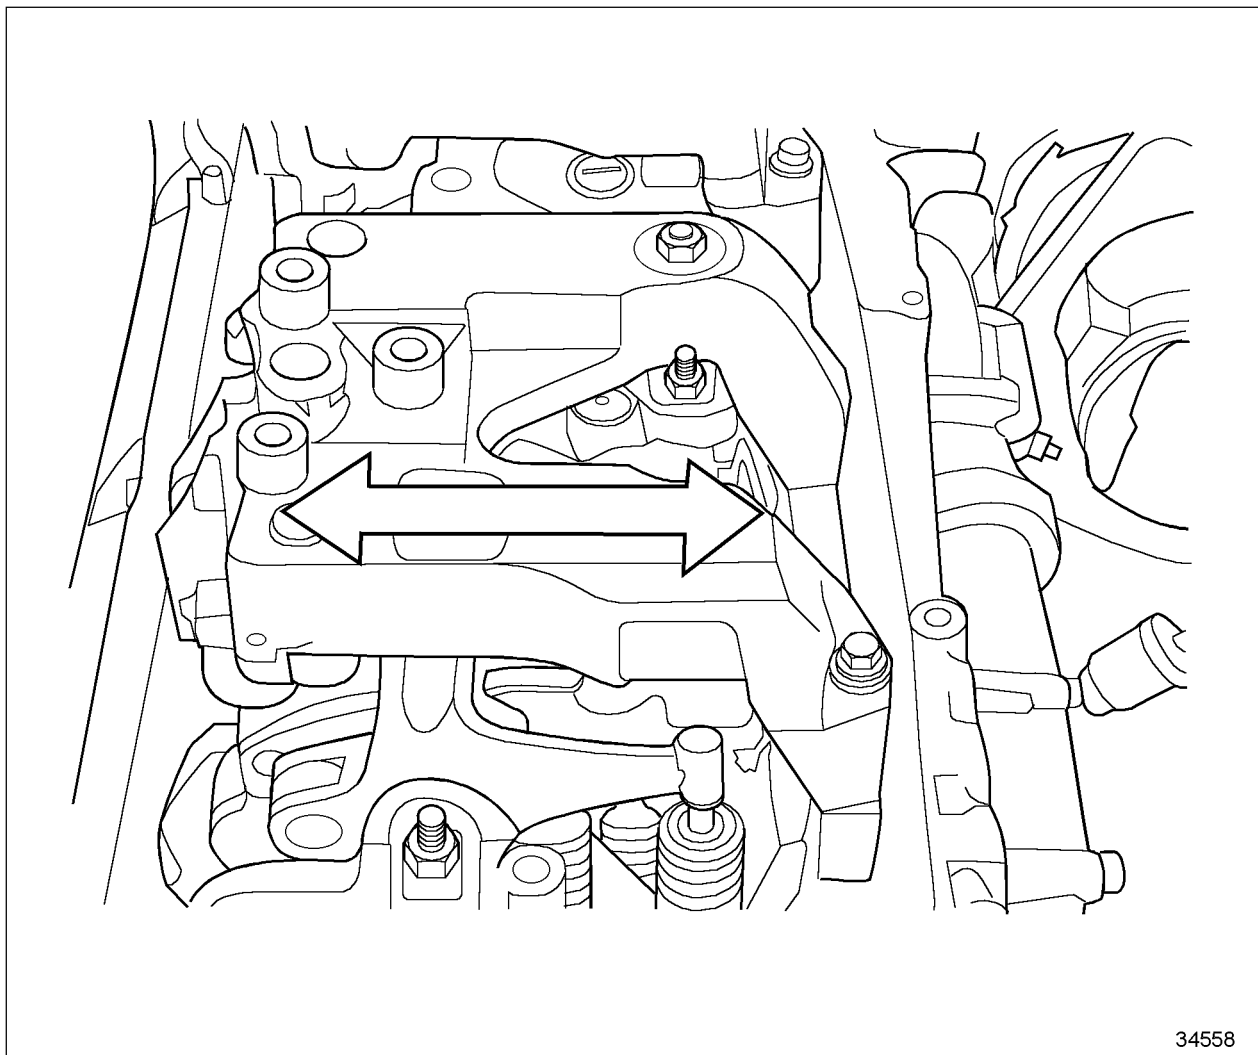

Figure 1-440 Locating Center Position of Housing
10. On models 760A and 765, move the housing from side to side, and locate the housing in the center position of the movement. See Figure 1-440.